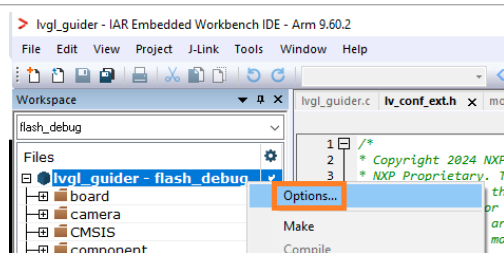

Figure 7. Project options
4. Open the project settings by right clicking on the project name and selecting **Options...** as shown in Figure 7.